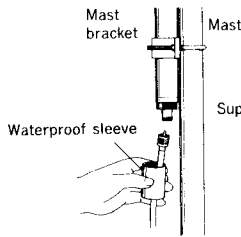

Fig. 9
9) Connect coaxial cable with UHF connector to the feedpoint section at the bottom of the antenna through waterproof sleeve as shown in Fig. 9. Then attach waterproof sleeve to support pipe firmly with a screw. Finally, turn coaxial cable once to make a loop at right below the antenna to escape excess load from the cable.